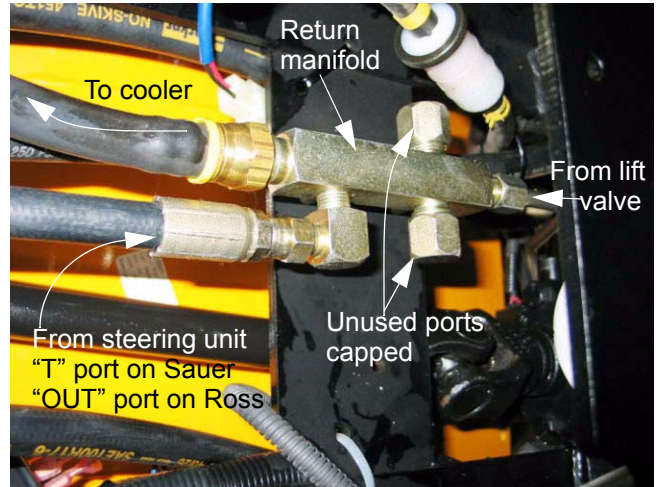

Figure 1.17
1.17. The fluid may pass through the return manifold, through the oil cooler, then back to the transmission. See Figure 1.17.